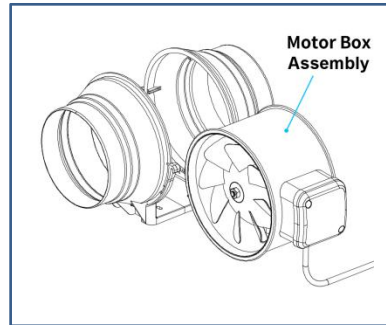

Fig.2.
- 2、 Remove the motor box assembly from the flange bracket.See the(Fig.2.)